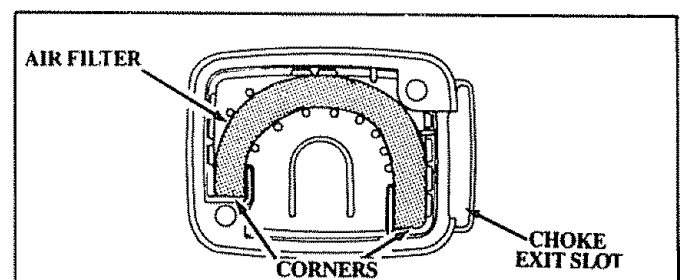

Figure 28
2. Remove the Air Filter from the Cover. Figure 28.
5. Reinstall the Air Filter Cover, making sure the Choke exit slot (Figure 28) is placed over the Choke Lever.
**CAUTION:** Fit air filter into the corners of the housing to keep dust from entering the engine and causing engine damage. Figure 28.